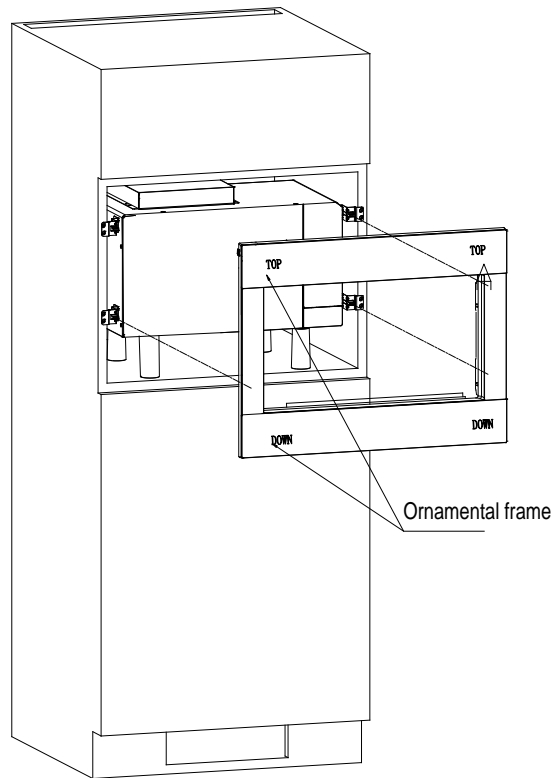

Fig 5
e) Secure ornamental frame to holders, as shown in Fig.5.